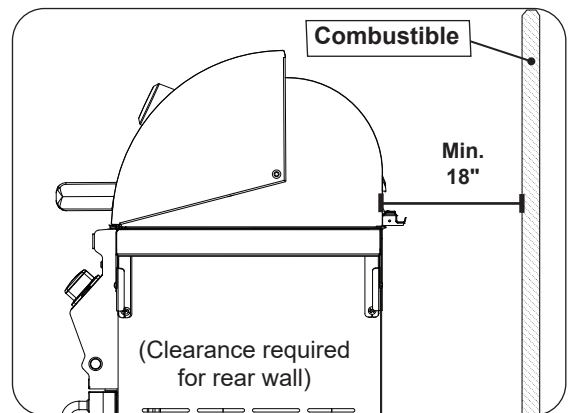

Fig. 12-3 Clearance 'C' Diagram
- The unit must have a minimum clearance of 18" from the combustible rear wall (see Fig. 12-3).